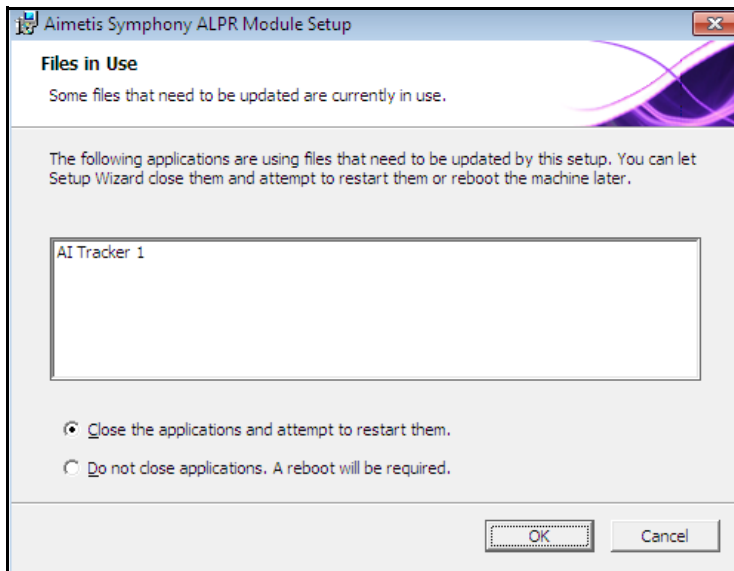

Figure 8. ALPR Module Setup - Files In Use page
7. You may receive a message indicating the some files must be updated. By default, the **Close all applications and attempt to restart them** option is selected in the **Files in Use** page. Click **OK** (Figure 8 on page 15).